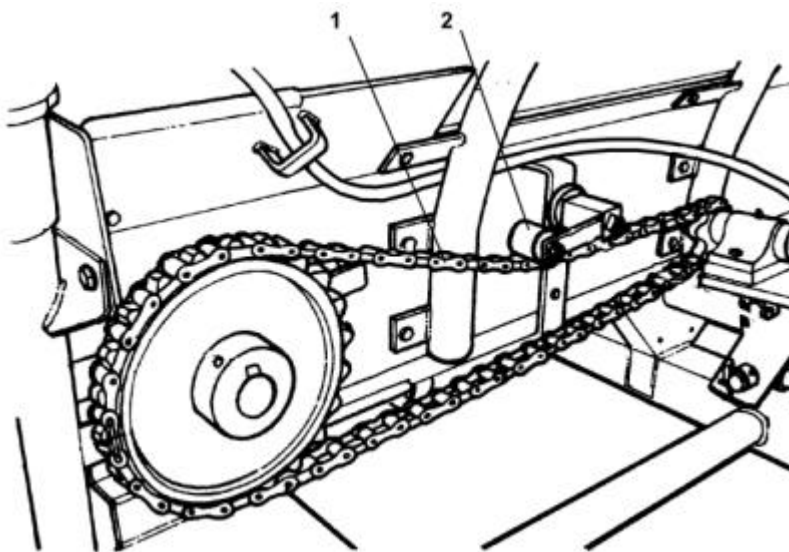

Figure 7
27. Chain tension (1) is maintained by a tension roller (2) (Fig 7).